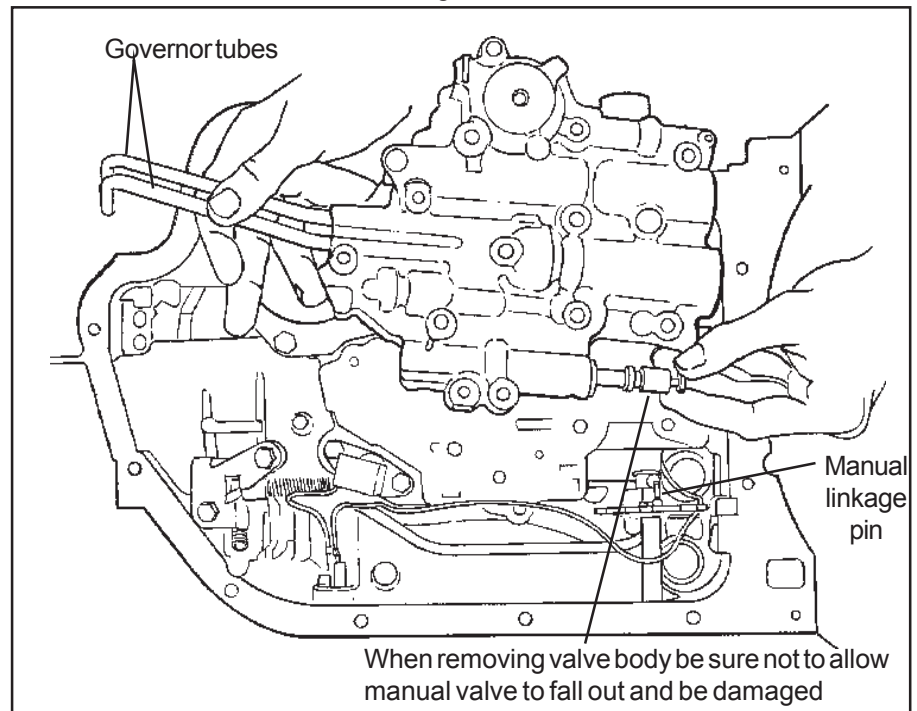
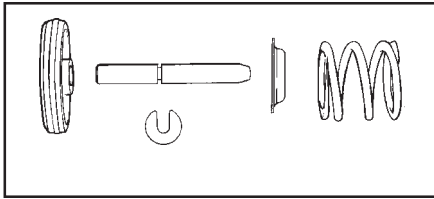

Figure 6
Figure 7
time pulling straight down on the governor tubes (See Fig. 6). Place the valve body in the oil pan to avoid contamination. **NOTE:** The front servo may fall out of the case, if it does see Figure 7 for reassembly order. Use grease or petroleum jelly to hold the servo components in place.
STEP 12. Insert the governor tubes into the valve body (**See Fig. 6**). Lay the lower valve body gasket (has "VB" punched in it) into position on valve body (use grease or petroleum jelly to hold it in place). Make sure the manual valve is in its bore. Install valve body onto transmission guiding the governor tubes into their holes at the rear of case. Push up on valve body and tubes and engage the manual valve on the shift linkage. Install one bolt to hold valve body in place.